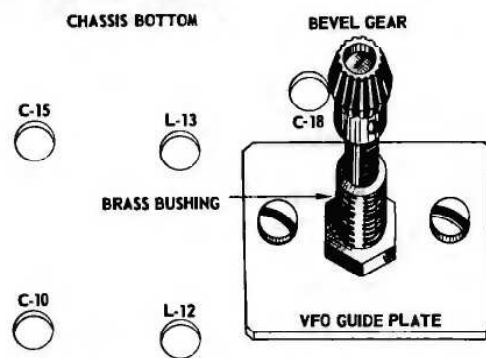

FIG. 1
- (c) The VOX/QT are attached to the receiver and DSB-100 as shown in the VOX manual, Figure 1, with the exception of the 115V AC relay, shown as an antenna relay (Figure 1), which in this case, is used to close the Globe Champion internal antenna relay at the ANT. RELAY receptacle on the rear of the transmitter.
- (b) Set the BANDSWITCH to the 40 meter band. Set the receiver to 7.0 MC. (It is assumed the receiver is accurately calibrated or a standard is also used to ascertain the frequency the receiver is tuned to). Refer to Figure 1 for the proper alignment points. Turn ON the transmitter EXCITER switch.